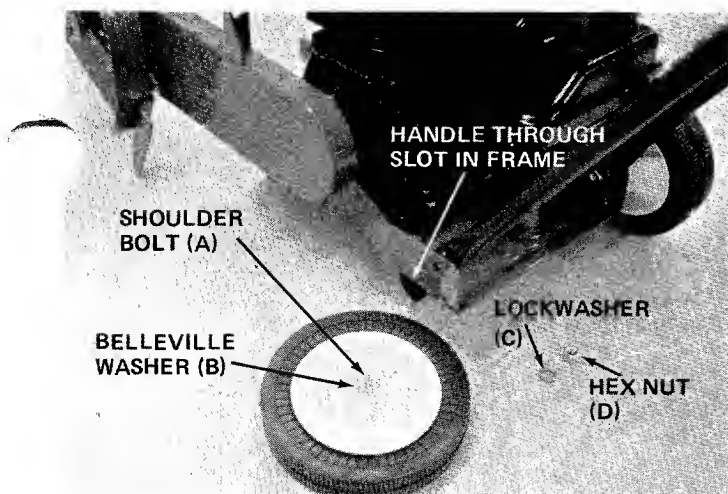

FIGURE 3.
2. Place lower handle into the slots in the rear frame. See figure 3.
3. Line up holes in handle with holes in frame. See figure 3.
4. Secure rear wheels (P), lower handle (M) to frame with shoulder bolts (A), belleville washers (B), lock washers (C) and hex nuts (D). See figure 3.